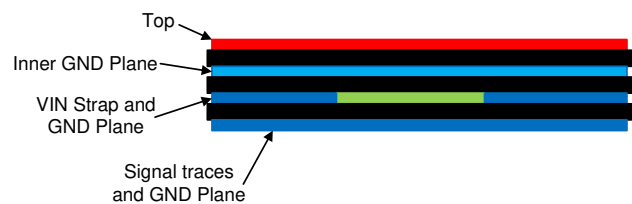

图 10-2. Example Layout for VQFN Package
The PCB layout of any DC/DC converter is critical to the optimal performance of the design. Bad PCB layout can disrupt the operation of an otherwise good schematic design. Even if the converter regulates correctly, bad PCB layout can mean the difference between a robust design and one that cannot be mass produced. Furthermore, the EMI performance of the regulator is dependent on the PCB layout, to a great extent. In a buck converter, the most critical PCB feature is the loop formed by the input capacitor or input capacitors, and power ground, as shown in 图 10-1. This loop carries large transient currents that can cause large transient voltages when reacting with the trace inductance. These unwanted transient voltages will disrupt the proper operation of the converter. Because of this, the traces in this loop must be wide and short, and the loop area as small as possible to reduce the parasitic inductance. 图 10-2 shows a recommended layout for the critical components of the LMR33630-Q1.
1. **Place the input capacitor or capacitors as close as possible to the VIN and GND terminals.** VIN and GND pins are adjacent, simplifying the input capacitor placement. With the VQFN package there are two VIN/PGND pairs on either side of the package. This provides for a symmetrical layout and helps minimize switching noise and EMI generation. A wide VIN plane must be used on a lower layer to connect both of the VIN pairs together to the input supply; see 图 10-2.